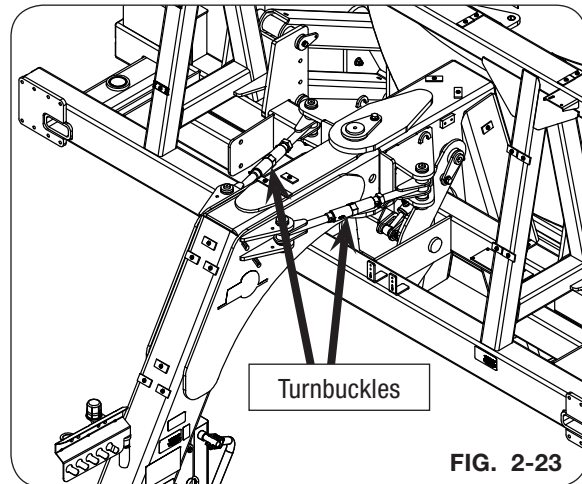

FIG. 2-23
2. If unit is trailing to the left, lengthen the RH tongue turnbuckle and shorten the LH tongue turnbuckle. Use 1/2 turn increments for both. (FIG. 2-23)
3. If unit is trailing to the right, lengthen the LH tongue turnbuckle and shorten the RH tongue turnbuckle. Use 1/2 turn increments for both. (FIG. 2-23)